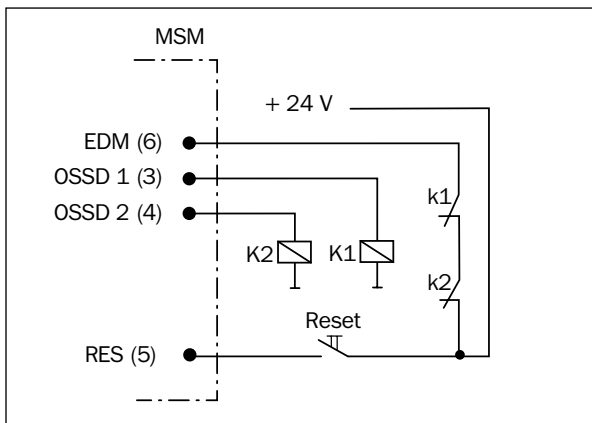

Fig.9: Circuitry example with integral override variant
**Note** It is advisable to use the internal MSL restart interlock as shown in the following circuit diagram (Fig. 9).